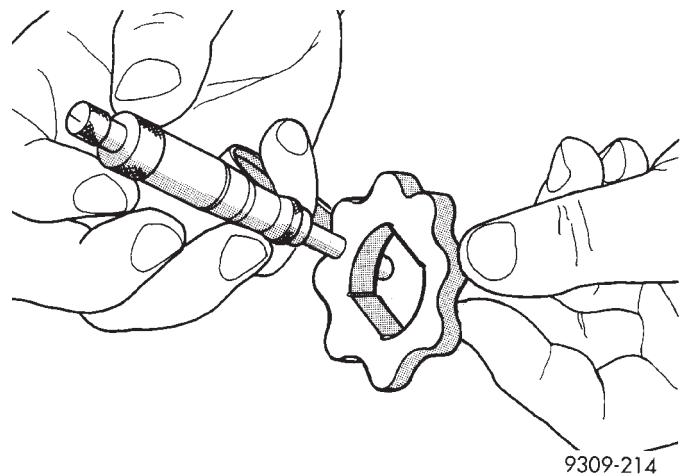

Fig. 130 Measuring Inner Rotor Thickness
(4) If inner rotor measures 7.64 mm (0.301 inch) or less replace inner rotor (Fig. 130).